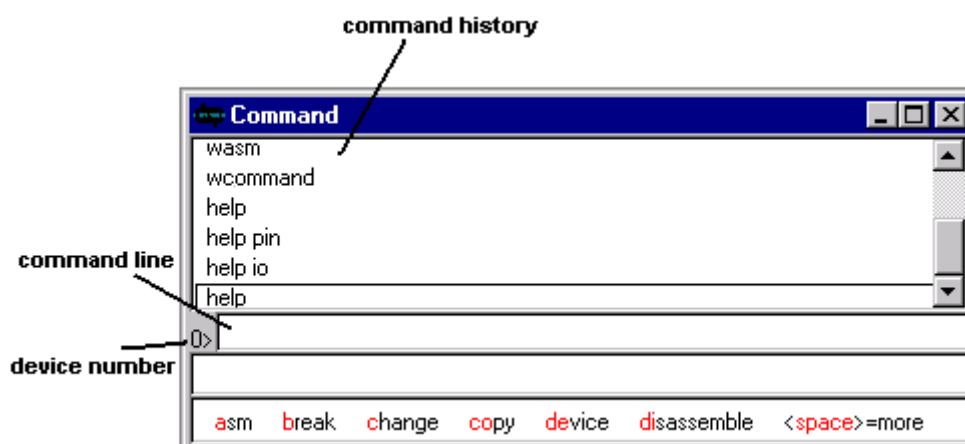

Figure 12-2. Command Window
1. From the **Windows** menu, choose Command. See the Command window in Figure 12-2.